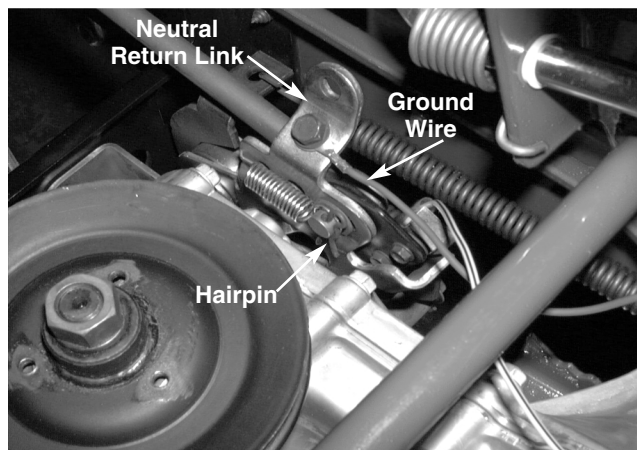

FIGURE 8.
15. Remove the hairpin securing the hydrostatic foot control rod ferrule and reverse safety bracket to the neutral return plate. See figure 8.